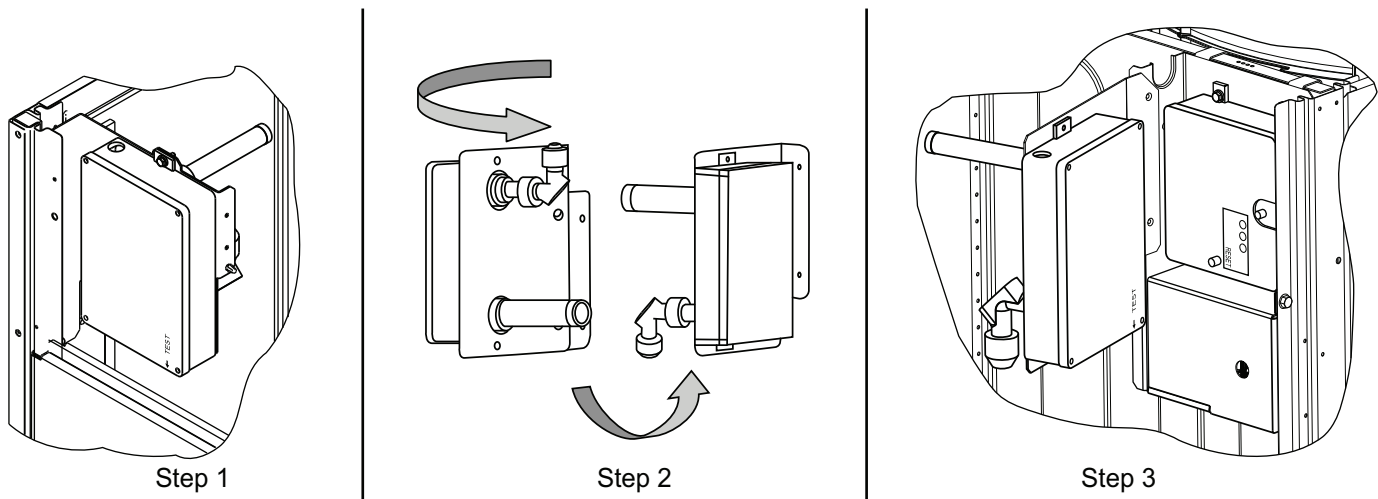

Fig. 63 — Completing Installation of Return Air Smoke Sensor
1. Unscrew the two screws holding the Return Air Smoke Detector assembly. See Fig. 63, Step 1. Save the screws.
2. Turn the assembly 90 degrees and then rotate end to end. Make sure that the elbow fitting is pointing down. See Fig. 63, Step 2.
3. Screw the sensor and detector plate into its operating position using screws from Step 1. See Fig. 63, Step 3.